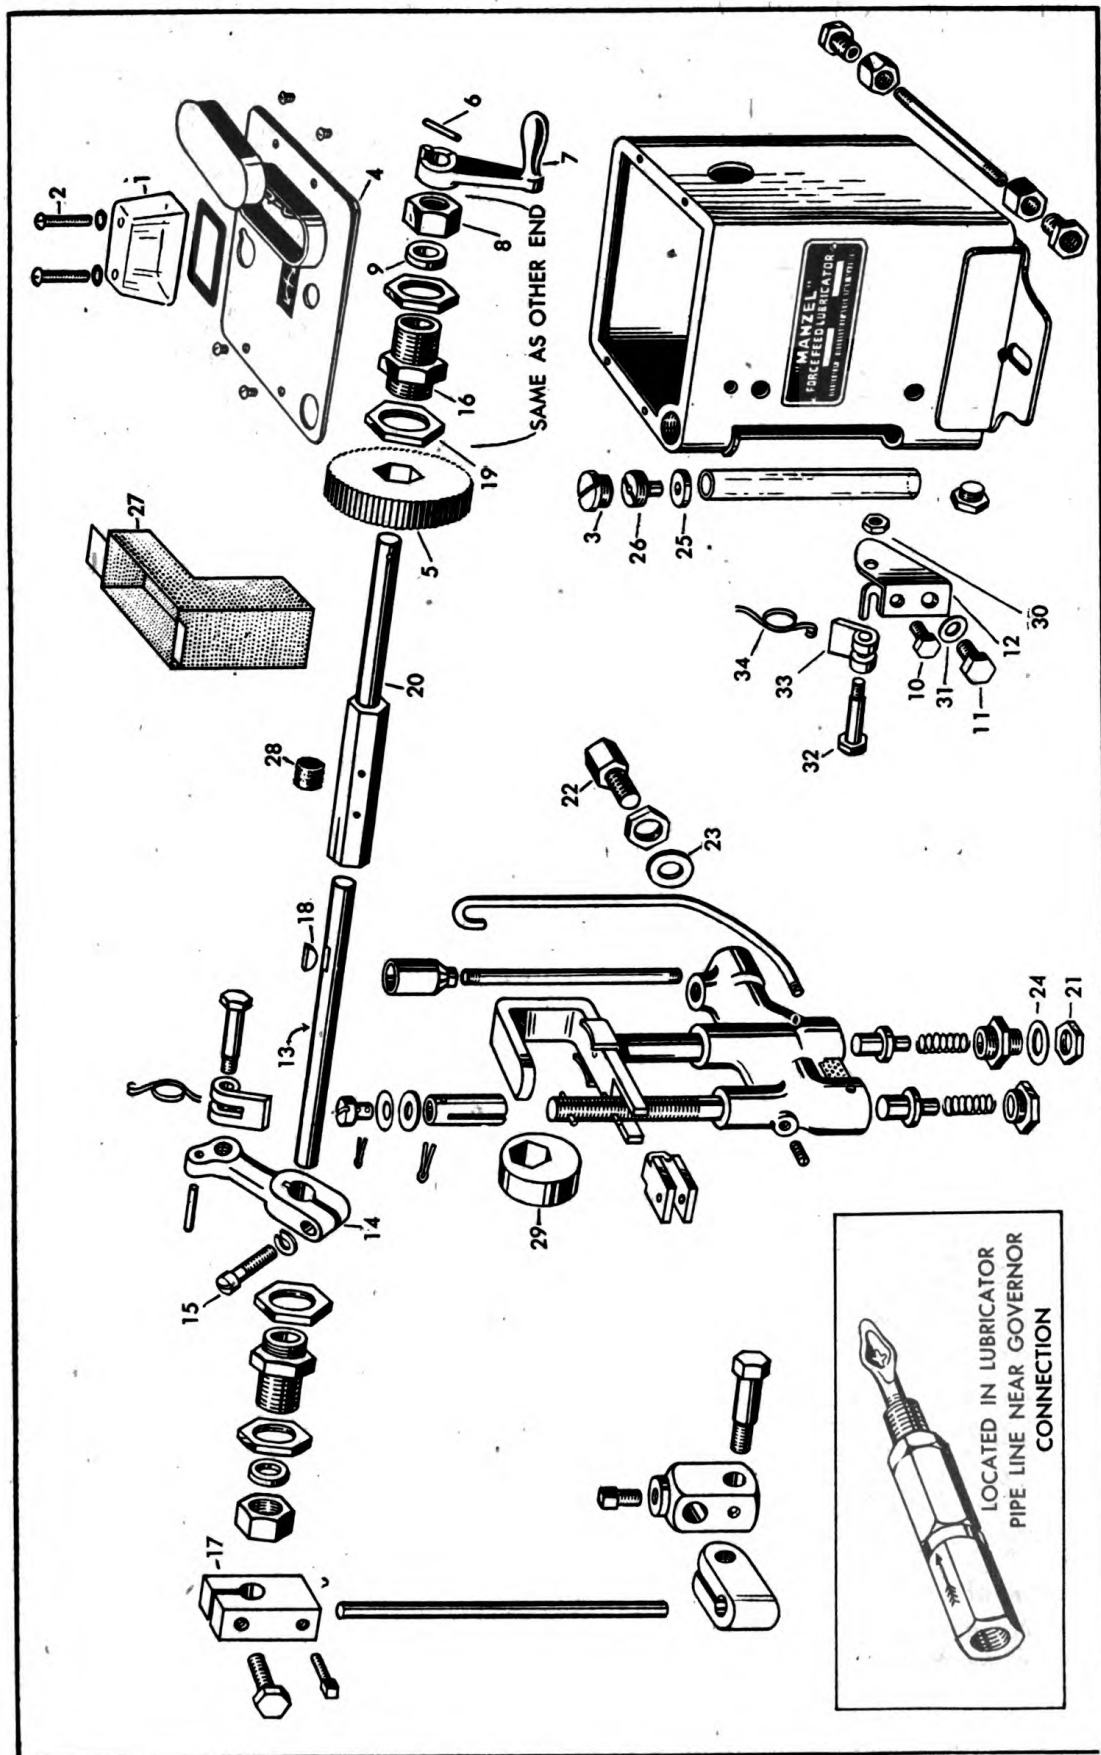

Fig. 14—Exploded View, Lubricator
48. Disassembly. (See fig. 14).
Before doing any further disassembling, examine very carefully the arrangement of the parts as assembled in the reservoir and refer to the exploded view (fig. 14). Note in particular the position of the ratchet wheel teeth (5) so that in reassembling this can be located in the same position.
Attach the assembled ratchet wheel brake (these parts are shown in the lower right-hand corner of fig. 14, Parts 10, 11, 12, 30, 31, 32, 33 and 34). Be sure that the washer (31) is put on with the larger capscrew (11). Then replace the hand crank (7) and hand crank pin and attach the cover to the reservoir, making sure that the regulating fork attached to the cover on the under side fits over the regulating plunger on the pumping unit. Replace the gauge glass cap plug (3) and sight feed glass (1).